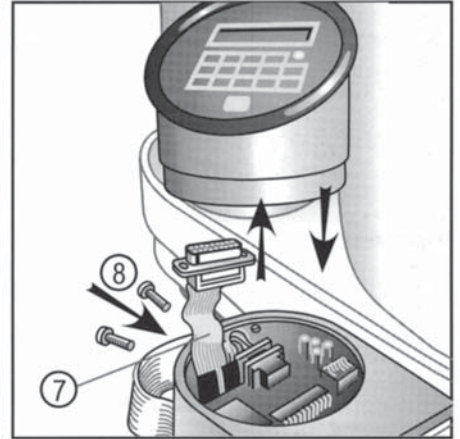

Figure 5
The Multicast Printer is connected with the Multicast compact via a special interface ⑨ and screwed firmly to the housing. Please observe the separate instructions for assembly. It is prepared to receive the control element (figure 5). It is also possible to connect commercially available, ASCII-compatible printers with a serial port to the Multicast compact via the integrated serial interface.